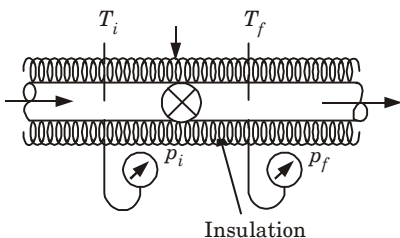

Fig. 8. Joule-Thomson expansion.
1. A gas is made to undergo continuous throttling process by a valve as shown in Fig. 8.